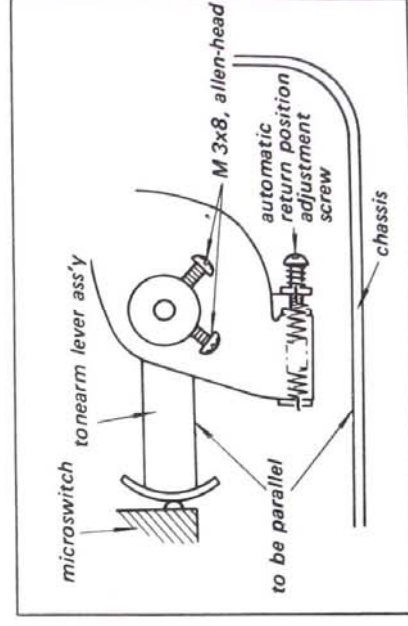

Fig. 3-4. Automatic return position adjustment
2. Loosen the allen-head screw, and adjust the tonearm lever so that the tonearm lever is in parallel to the edge of chassis as shown in Fig. 3-4.
3. The position where the tonearm starts to return can be adjusted by turning the automatic return position adjustment screw shown in Fig. 3-4.